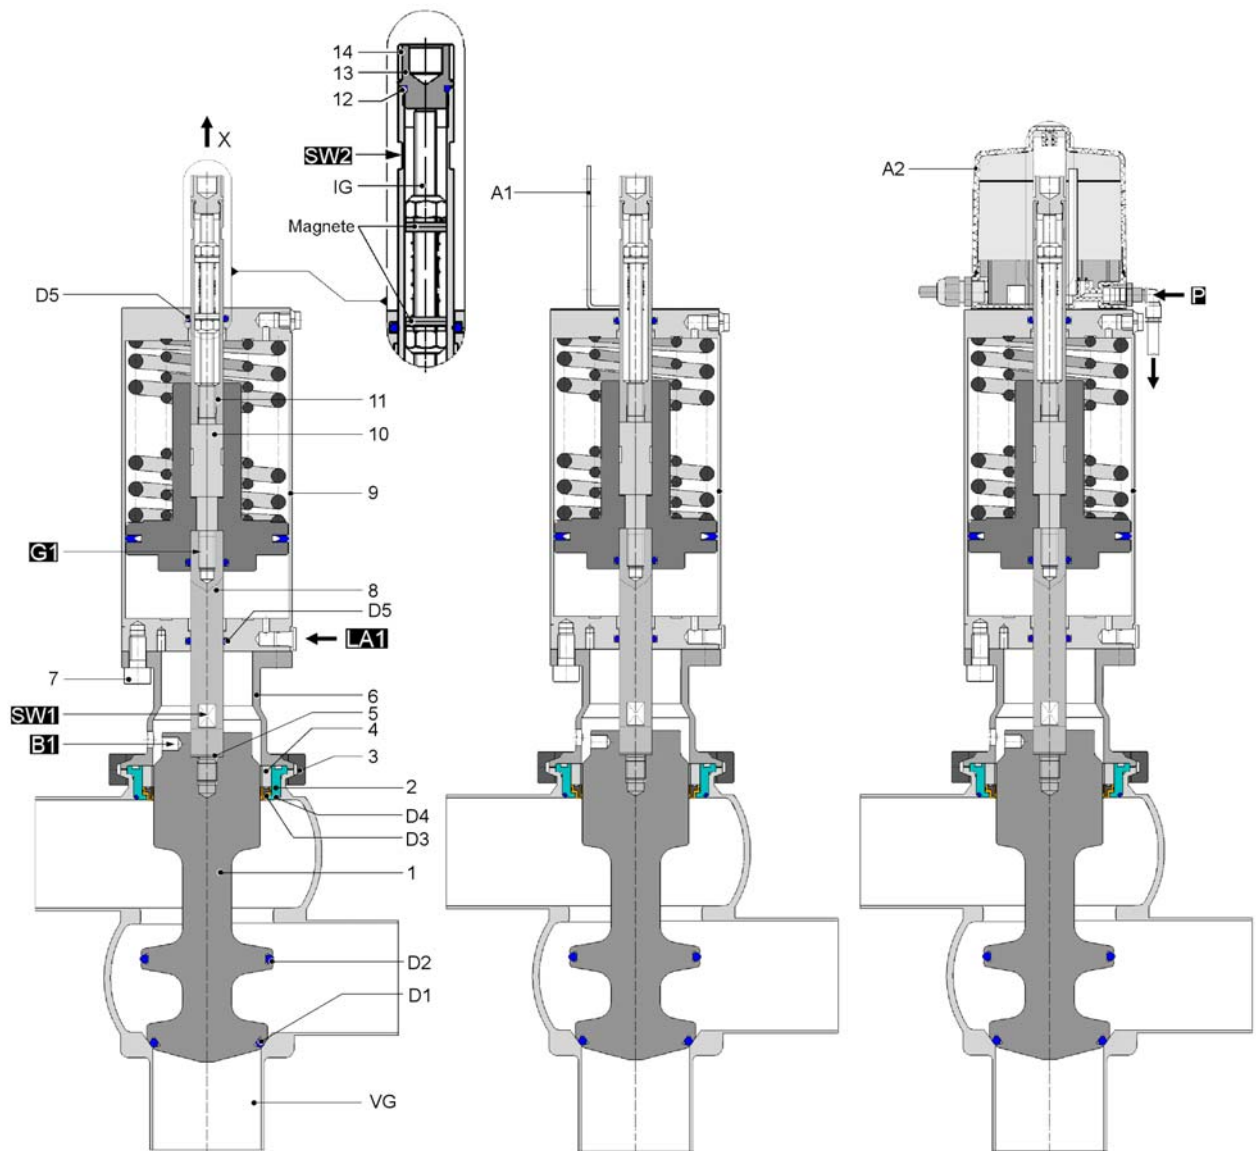

Fig. 5
- Pneumatically open the valve, so that upstroke the piston (1) in direction X (Fig. 5 /Page 10).
- Remove clamp coupling (3).